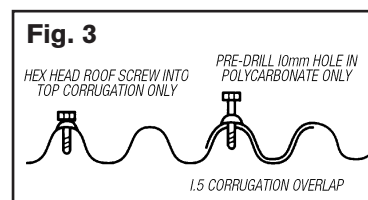

Fig. 3
- Use only designed polycarbonate roof screws with seal caps. Drill a 10mm diameter hole in the top corrugation of the sheet. This allows for the expansion and contraction of the sheet. The roof screws are self drilling so you can use a compatible hex head fitting on an electric drill to drive the roof screw in. Screws must be placed on every second high corrugation and placed centrally in the 10mm hole (Fig. 3).